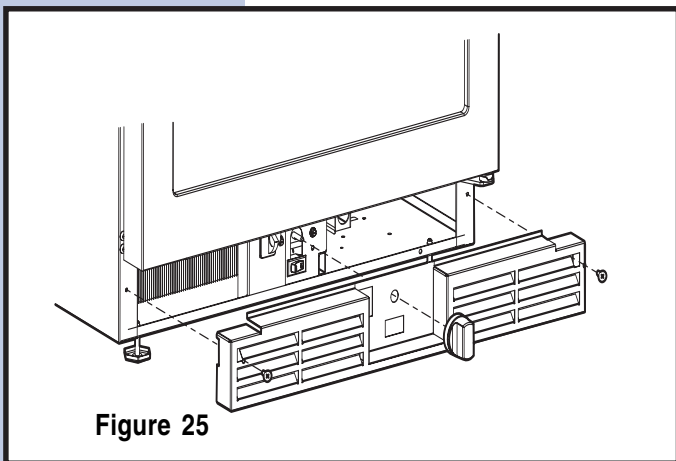

Figure 25
1. Remove the control knob by grasping the knob and pulling straight off (see **Figure 25**).